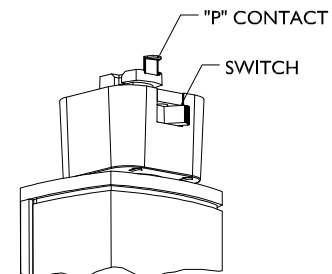

FIG. 3
1. Raise "P" CONTACT to high position by pulling CONTACT as high as stop permits (See FIG.3)
5. Rotate ADAPTER (2) CONTACTS in direction of GROOVE until ADAPTER SLEEVE snaps into track. FIG.3.
4. Rotate ADAPTER counterclockwise until ADAPTER tab snaps into track. FIG.3.